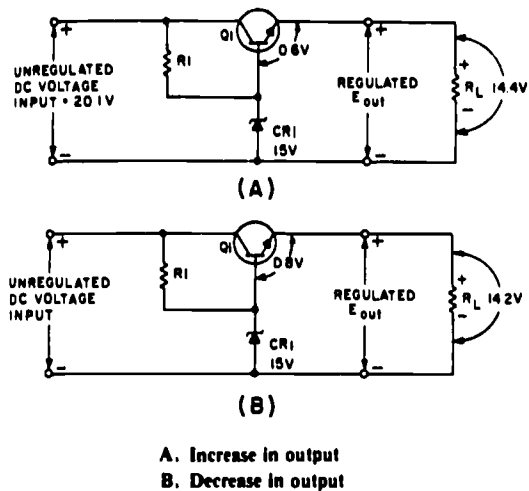

Fig 4-36. Series voltage regulator.
Study figure 4-36, view (A), in order to understand what happens when the input voltage exceeds 20 volts. Notice the input and output voltages of 20.1 and 14.4 volts, respectively. The 14.4 output voltage is a momentary deviation, or variation, from the required regulated output voltage of 14.3 and is the result of a rise in the input voltage to 20.1 volts. Since the base voltage of Q1 is held at 15 volts by CR1, the forward bias of Q1 changes to 0.6 volt. Because this bias voltage is less than the normal 0.7 volt, the resistance of Q1 increases, thereby increasing the voltage drop across the transistor to 5.8 volts. The voltage drop restores the output voltage to 14.3 volts. The entire cycle takes only a fraction of a second and, therefore, the change is not visible on an oscilloscope or readily measurable with other standard test equipment.